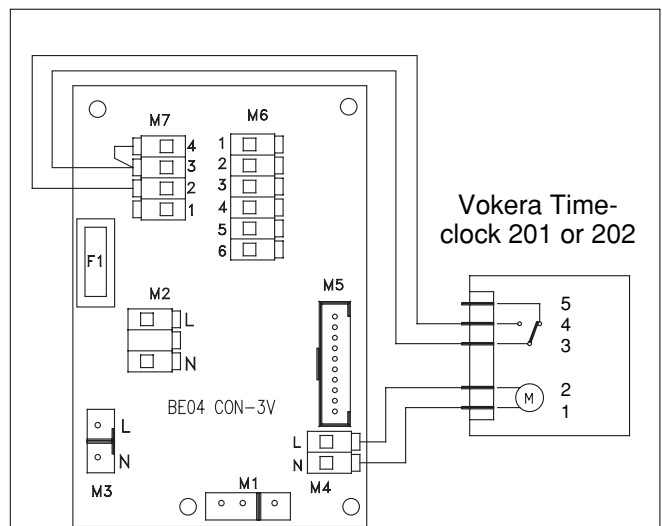
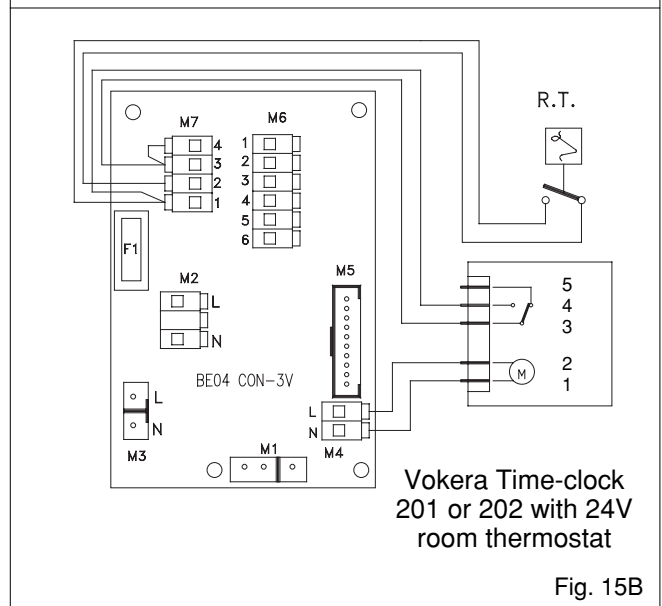

Fig. 15A
Fig. 15B
- Connect the wires to the clock as shown in fig.15A (or fig.15B if used with 24V room thermostat).
- Connect the clock wires to the electrical input board as shown in fig. 15A & 15B.